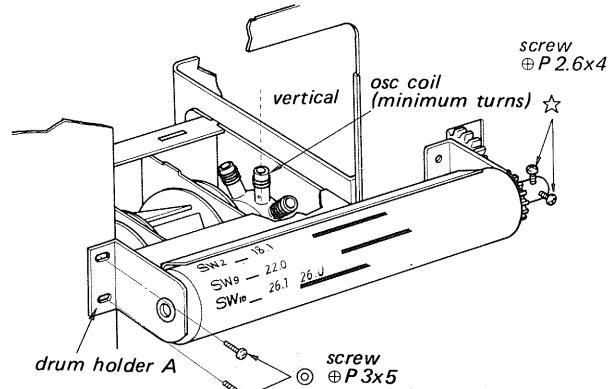

Fig. 2-16
5. Remove the drum holder A by removing the two screws marked  $\odot$  in Fig. 2-16.
6. Release the two screws marked  $\star$  in Fig. 2-16.
1. Turn the sw band selector so that the osc coil which has the minimum turns comes to the vertical position as shown in Fig. 2-16.
2. Attach the dial drum to the drum holders setting the two screws marked  $\odot$  in Fig. 2-16.
5. Fasten the two screws marked  $\star$  in Fig. 2-16.